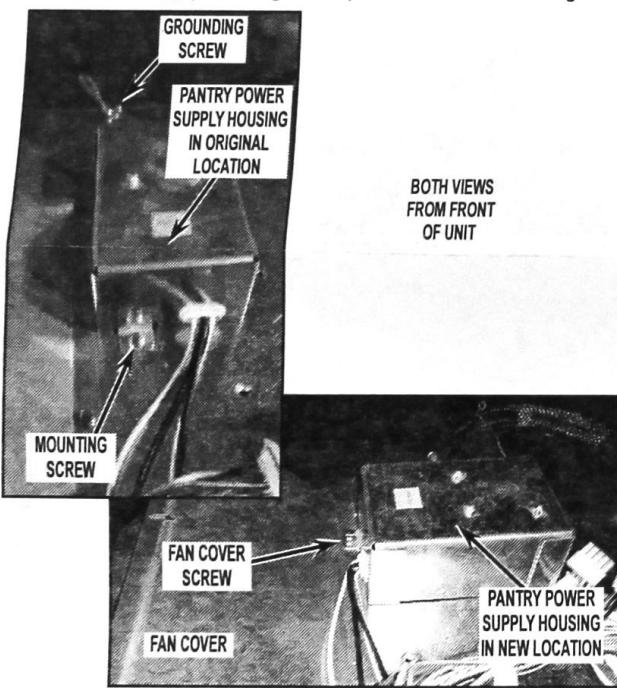

FIGURE 8
10. Disconnect the pantry power supply housing from the condenser cover by removing mounting screw and grounding screw. Rotate the pantry power supply housing 90 degrees, remove the fan cover screw shown and use to reattach pantry power supply housing in the position shown. See Figure 8.